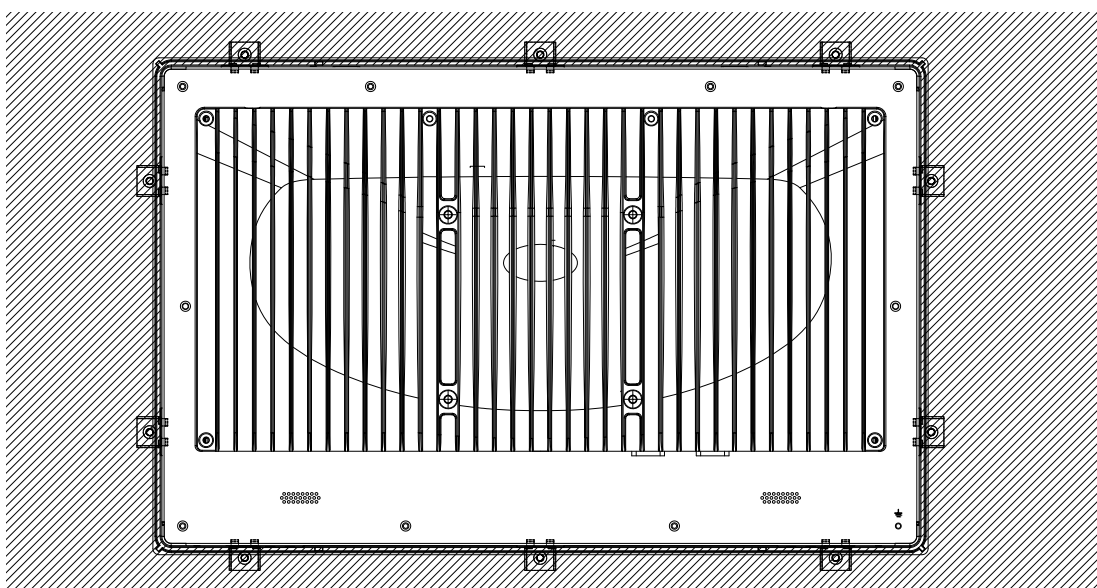

**Figure 2.25 Hook brackets location**
3. Insert the hook brackets into the holes following the direction of the arrows shown in Figure 2.25 and hang the panel PC.